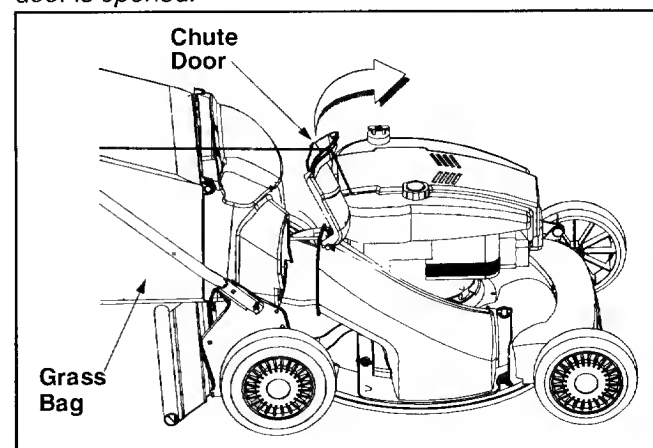

Figure 8
- Lift chute door on the grass bag adapter and slide grass bag onto the adapter. See Figure 8.